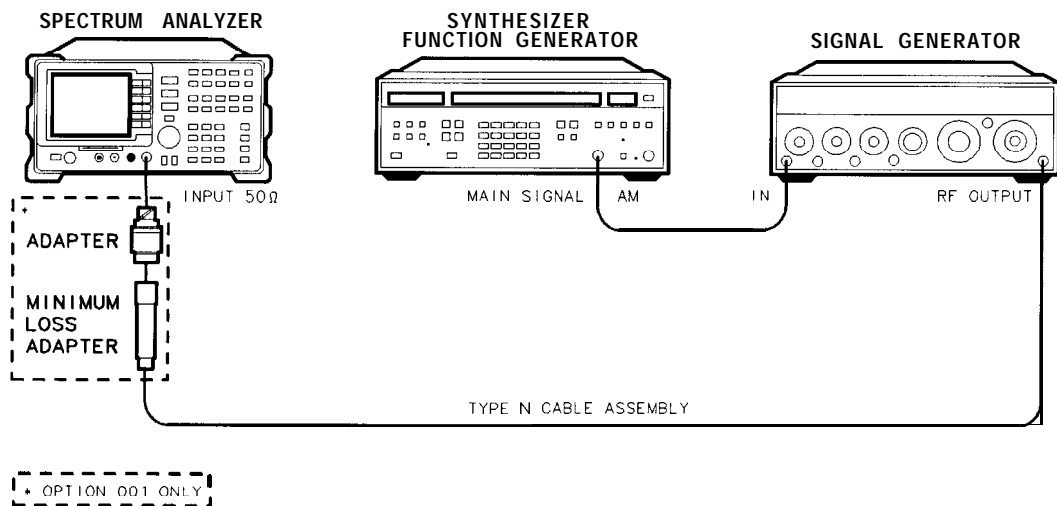

Figure 1-8. Sweep Time Accuracy Test Setup
3. Connect the equipment as shown in Figure 1-8.